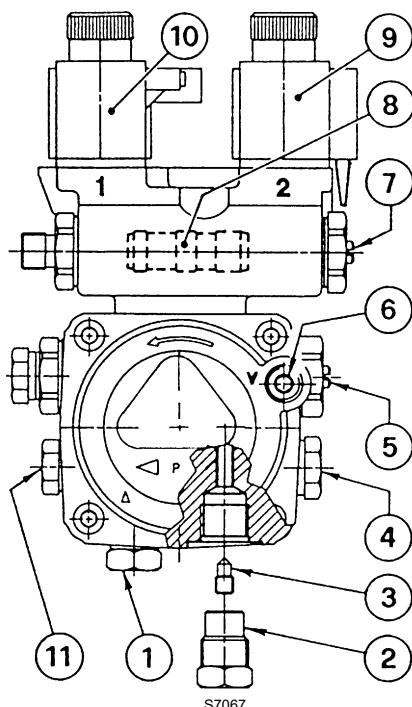

Fig. 16
► If necessary recalibrate the pressure, or if you prefer change it, just turn the screw 5)(Fig. 16). The pressure gauge for checking pressure should be fitted in place of the plug 4)(Fig. 16).